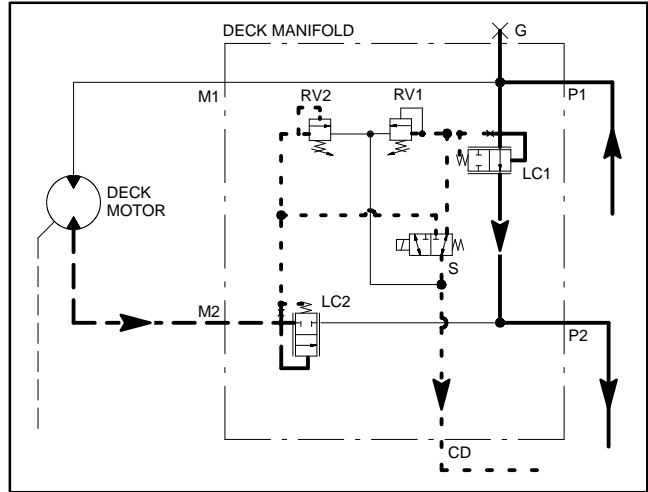

Figure 10
When the operator turns the PTO switch OFF or if a deck is raised with the PTO switch ON, deck control manifold solenoid valve (S) is de-energized causing logic cartridge (LC1) to shift (refer to information in PTO Mow Circuit in this section). This shifted cartridge allows oil return out manifold port P2. At the same time, solenoid valve (S) in its neutral position prevents any sense line flow through the spool which causes the logic cartridge LC2 to shift to its neutral position blocking return flow from the deck motor and slowing the cutting blades (Fig. 10).